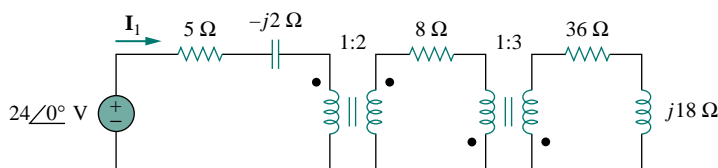

Figure 13.102 For Prob. 13.35.
- 13.35** Use the concept of reflected impedance to find the input impedance and current \mathbf{I}_1 in Fig. 13.102 below.